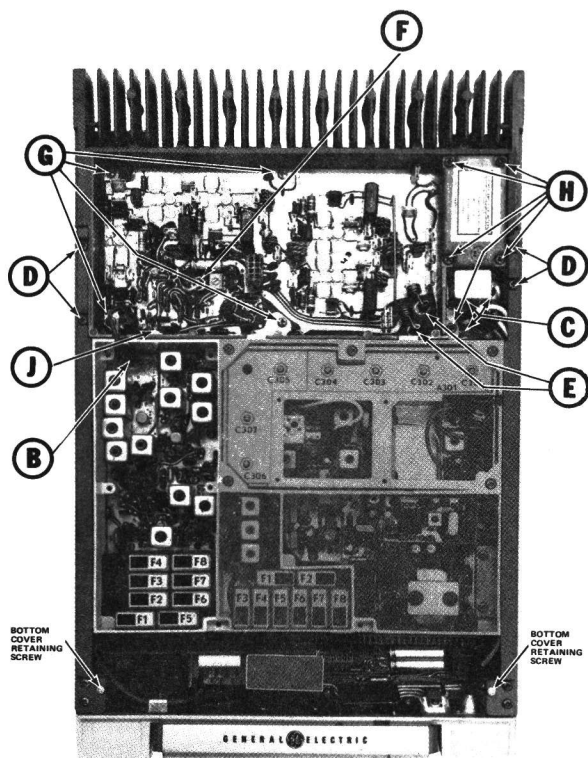

Figure 2 - Disassembly Procedure Top View
2. Remove the top cover, then loosen the two bottom cover retaining screws and remove the bottom cover (see Figure 2).